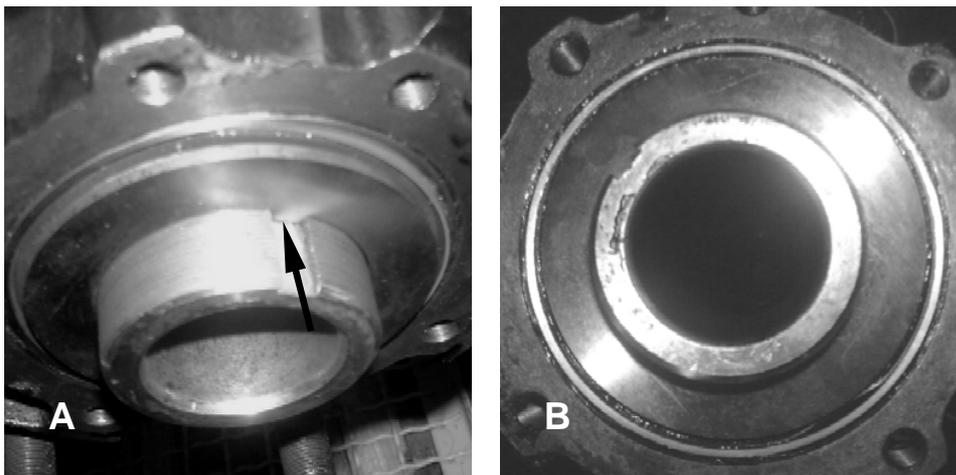

Figure 3: Washer with tang in keyway (A) and and pushed fully home (B)
- 4) Fit the tang washer over the spindle and onto the keyway as shown in Figure 3.